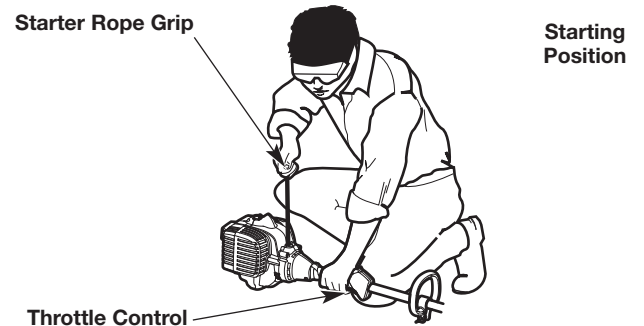

Fig. 10
WARNING: Avoid accidentally starting the unit. To avoid serious injury, the operator and the unit must be in a stable position when pulling the starter rope (Fig. 10).
5. Crouch in the starting position (Fig. 10).
6. Squeeze and hold the throttle control. Pull the starter rope with a controlled and steady motion **5 times** (Fig. 10).